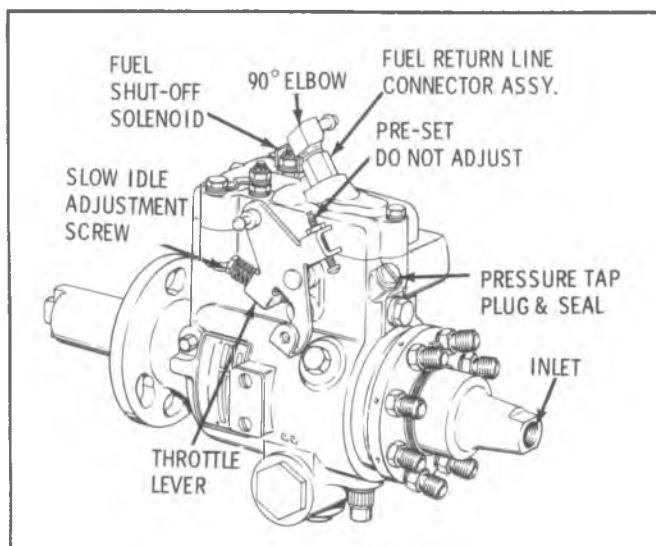

Fig. E-5—Injection Pump Slow Idle Screw
LINKAGE ADJUSTMENTS (Figs. E-5, E-6 and E-7)
- a. With the driving wheels blocked and the parking brake on, adjust the slow idle screw on the injection pump (Fig. E-5) to 575 RPM (Drive range, A/C OFF)
2. Remove the fuel return pressure tap plug. (Fig. E-5)